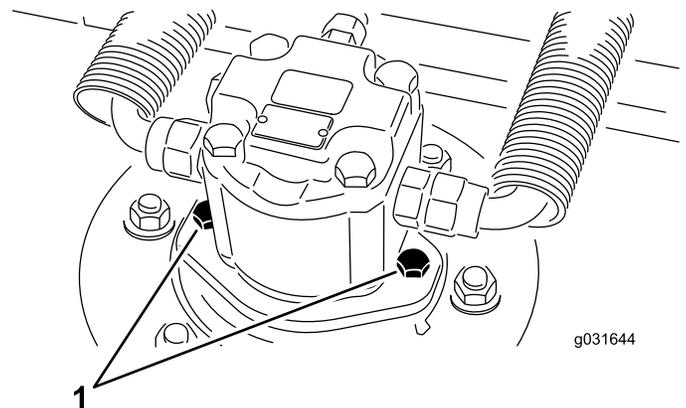

Figure 63
2. Remove the hydraulic-motor-mounting screws and disconnect and remove the hydraulic motor from the deck (Figure 63).
- Using the hydraulic-motor-mounting screws, install the hydraulic motor to the deck (Figure 63).